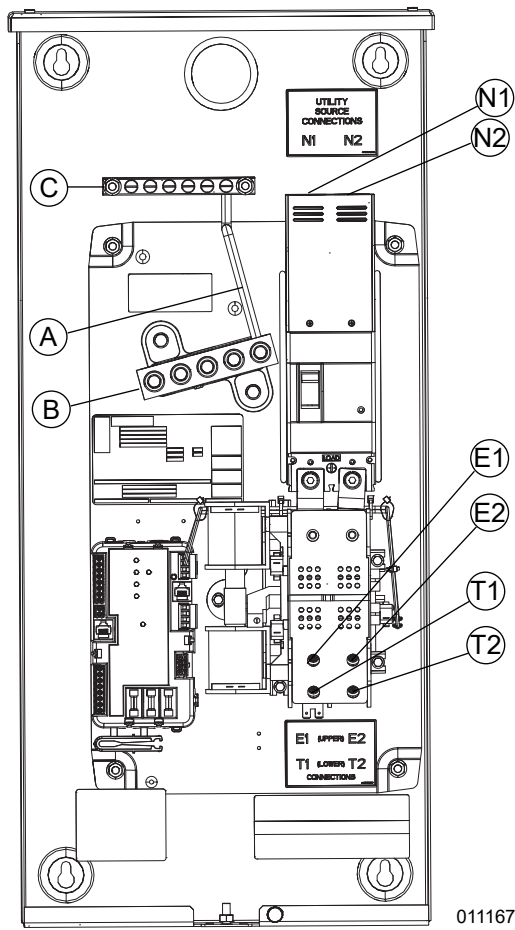

Figure 3-2. Wiring Connections 200 A Unit
2. See Figure 3-2. Connect utility neutral conductor to the neutral terminal bar (B). The grounding electrode conductors can be connected to the equipment grounding terminal bar (C) (see NEC 250.24(A)(4)). Follow all torque specifications for the terminal bars. A wire type main bonding jumper is provided to properly bond the service equipment.